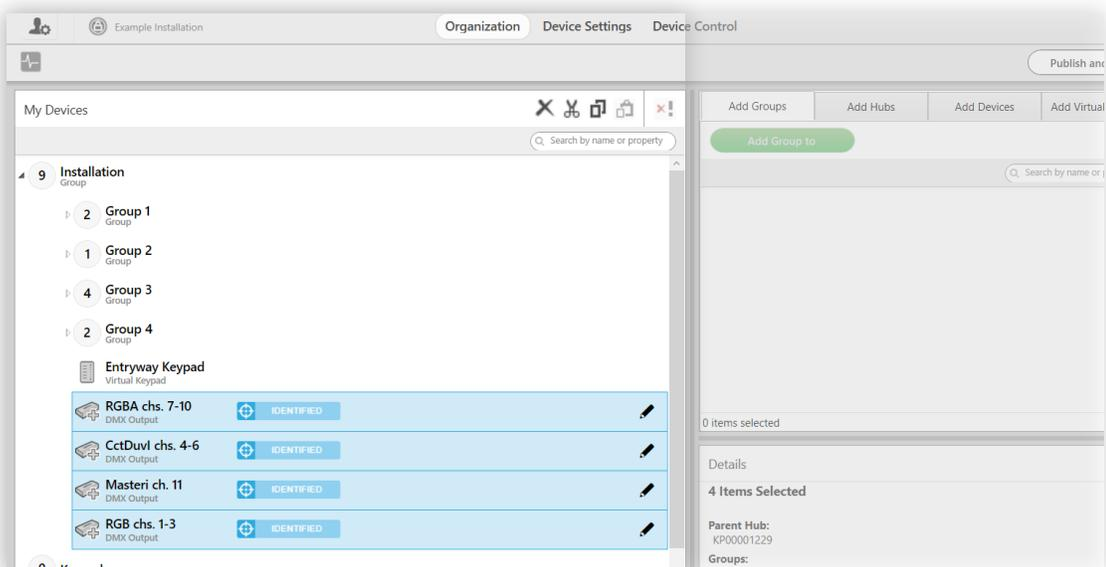

fig. 160
- i Open the installation in Design Studio. On the **Organization** tab, you should see your DMX outputs in the My Devices list, as shown in fig. 160.
You can think of each of these outputs as representing the DMX receivers listening to the channel range. For example, the “RGBA chs. 7-10” output in fig. 160 might represent several third-party LEDs with addresses of 7 that are listening for RGBA input. It might be more intuitive to imagine sorting those into a group rather than sorting the profile into a group.